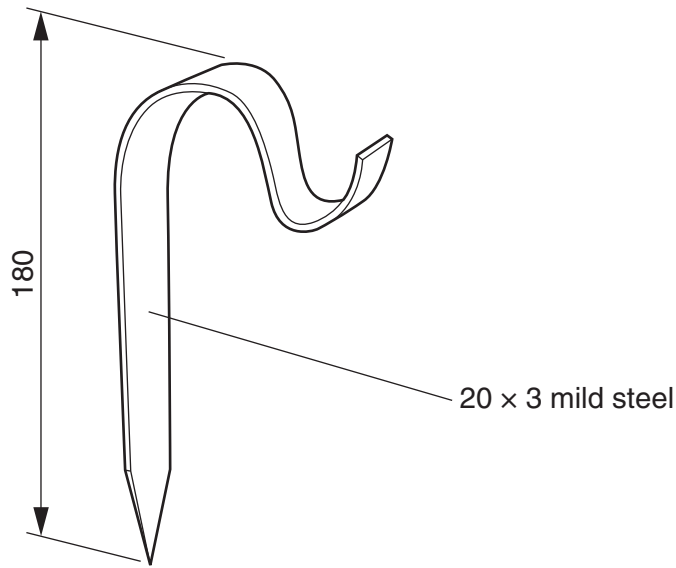

Fig. 2
2 Fig. 2 shows a hosepipe support for use in a garden.
- (c) Use sketches and notes to show a design for a bending jig that could be used to produce batches of the hosepipe support shown in Fig. 2.